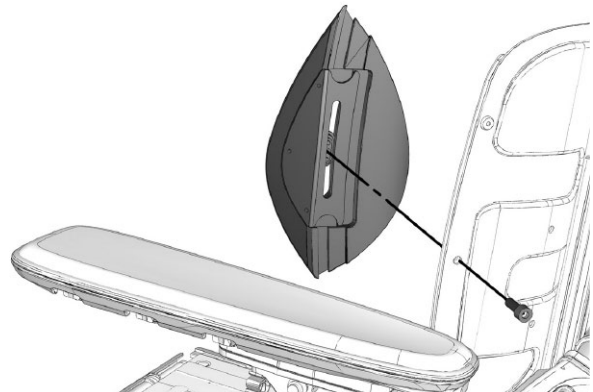

Fig. 1. Removing the standard trunk support.
2. Remove the existing trunk support, save the screw and nut for fitting of the new trunk support. Fig.1. You can not have the two different trunk supports mounted simultaneously.